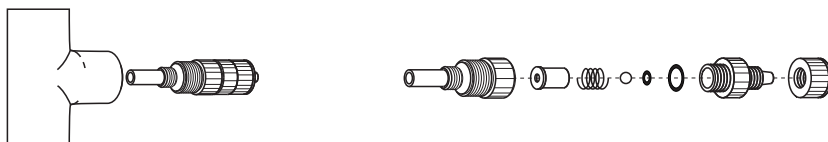

FIG. 4.8
- Periodically clean the injection/check valve assembly, especially when injecting fluids that calcify such as sodium hypochlorite. These lime deposits and other build ups can clog the fitting, increase the back pressure and interfere with the check valve operation. See section 4.3.4. Fig. 4.8.